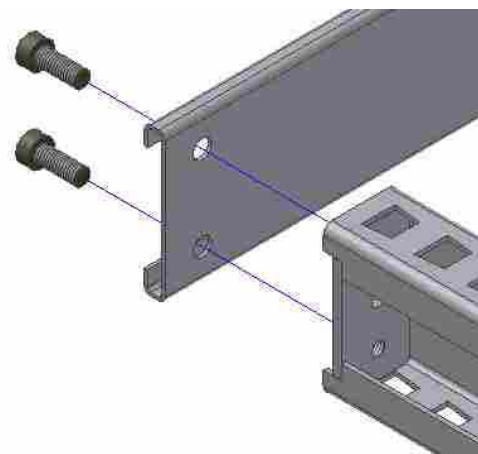

Fig 16
STEP 4c - Screw the **top profile** to the **grooved bars** with 2 **M8x20 DIN 912 Allen screws** (Fig. 16)